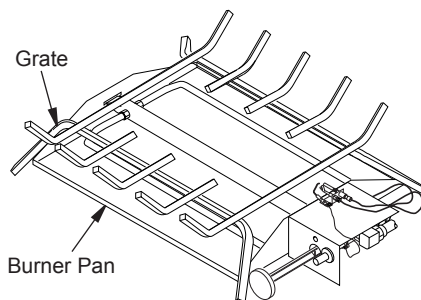

Figure 15 - Installing Grate (Pan Material Not Shown)
1. Place grate over burner pan. Grate should “lock” into place over corners of pan (see Figure 15).